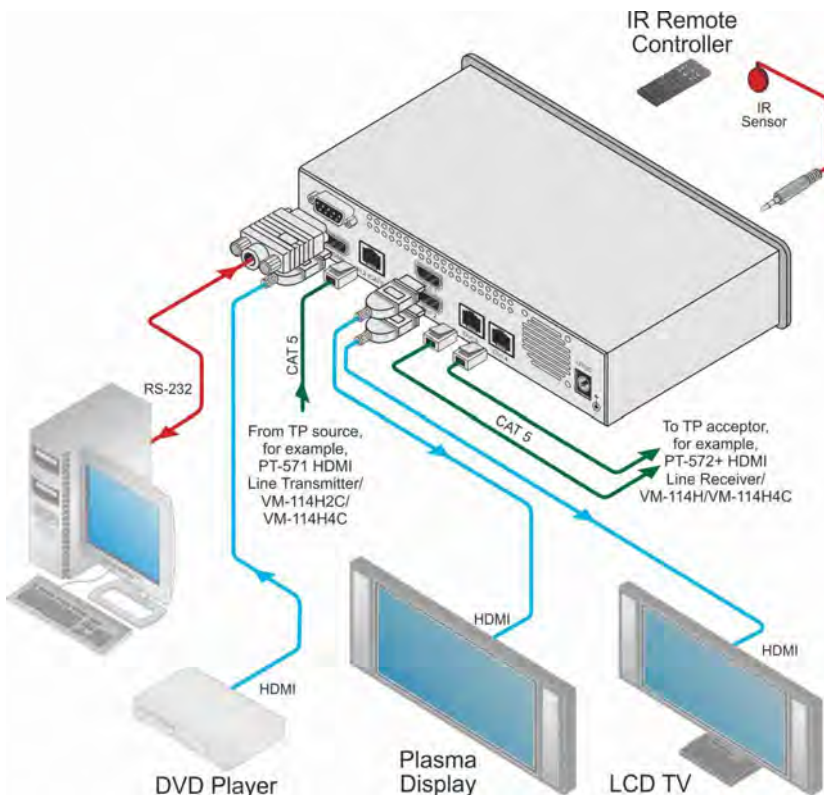

Figure 3: Connecting the VM-114H2C
To connect¹ the VM-114H2C as illustrated² in the example in Figure 3:
7. Connect the power adapter to the power socket on the **VM-114H2C** and to the mains electricity (not shown in Figure 3).
As shown in Figure 3, you can connect a PC (or other serial controller) directly to the **VM-114H2C** to control the **VM-114H2C**.